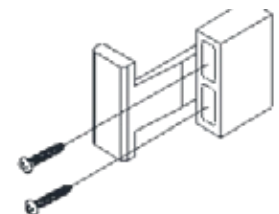

Figure 27
14. **Attach** the screen keeper (Item 33) to the jamb using two screws (Item 42; Figure 27).